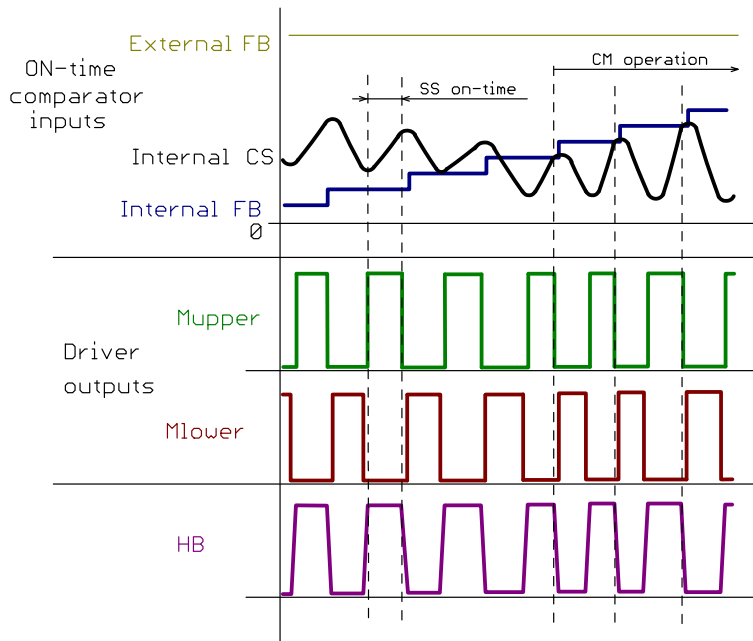

Figure 16. Soft Start Behavior
5. The **Soft-Start D/A converter** generates a soft-start voltage ramp for ON-time comparator input synchronously with Soft-Start counter incrementing. The internal FB signal for ON-time comparator input is artificially pulled-down and then ramped-up gradually when soft-start period is placed by the system – refer to Figure 16. The FB loop is supposed to take over at certain point when regulation loop is closed and output gets regulated so that soft-start has no other effect on the on-time modulation. The Soft-Start counter continues counting-up until it reaches its maximum value which corresponds to the IC maximum on-time value – i.e. the IC minimum operating frequency. The Soft-Start period is terminated (i.e. counter is loaded to its maximum) when the FB pin voltage drops below $V_{FB_SKIP_IN}$ level. The D/A converter output evolve accordingly to the Soft-Start counter as it is loaded from its output data bus.